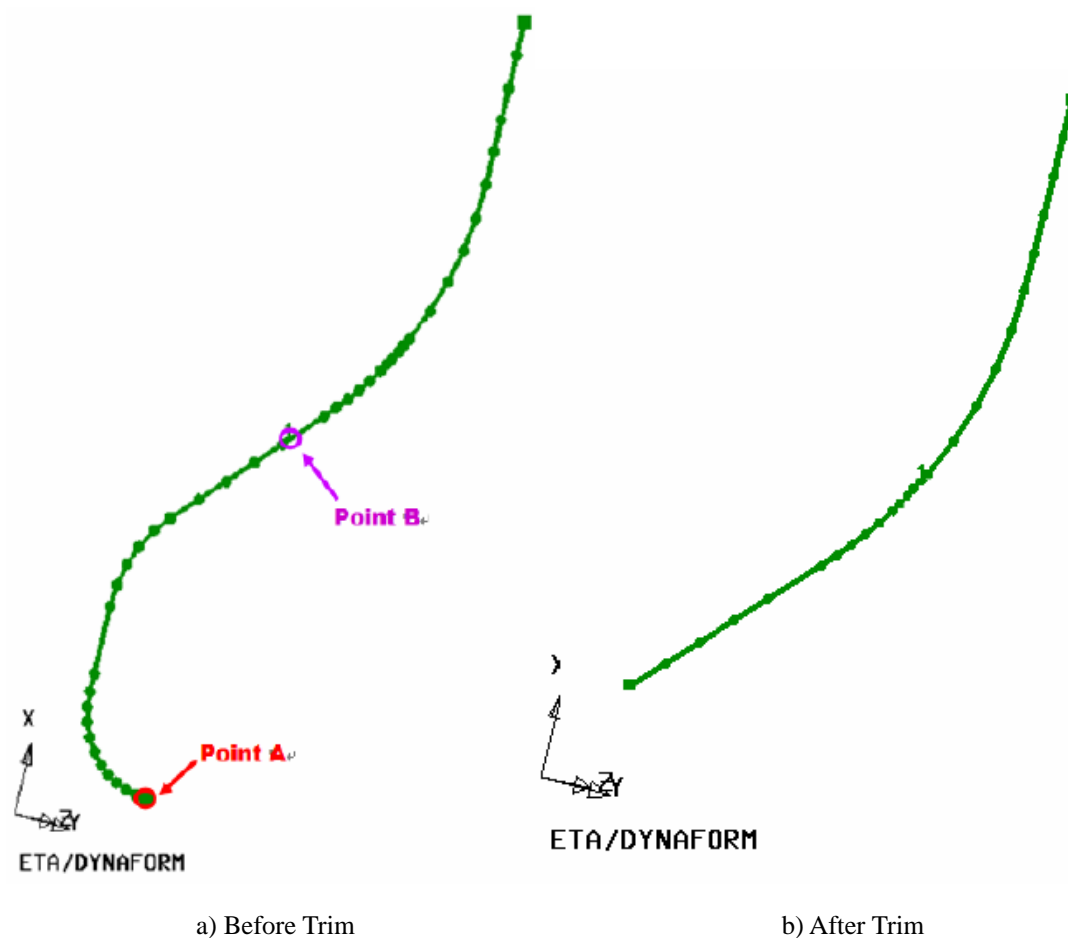

Figure 9.4.14 Trim the Drawbead
1. Select ENDPOINT of the drawbead that need to be TRIMMED. See the Figure 9.4.14.